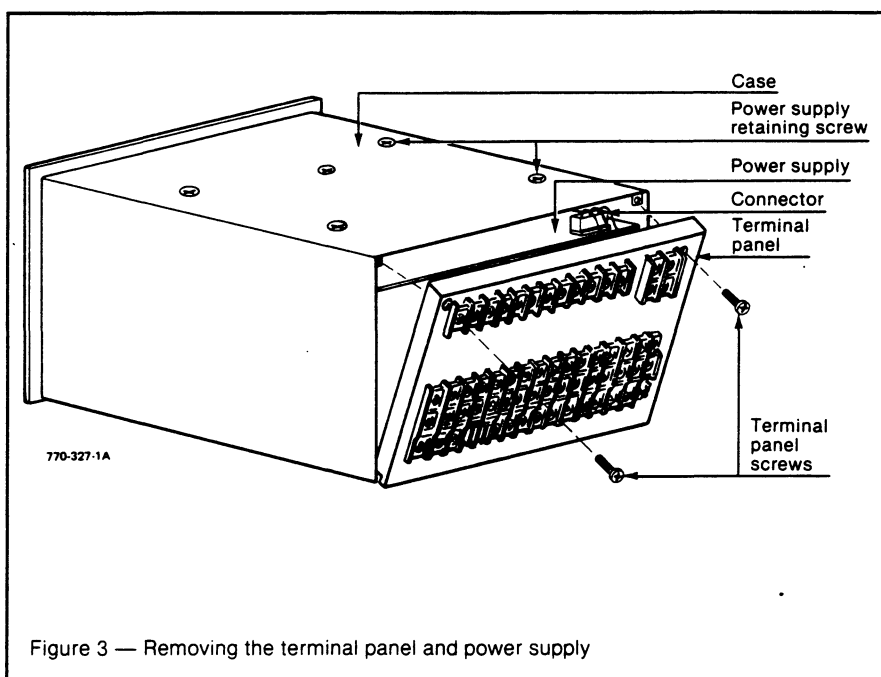

Figure 3 — Removing the terminal panel and power supply
2. Loosen the two screws on the top of the rear terminal panel (Figure 3).